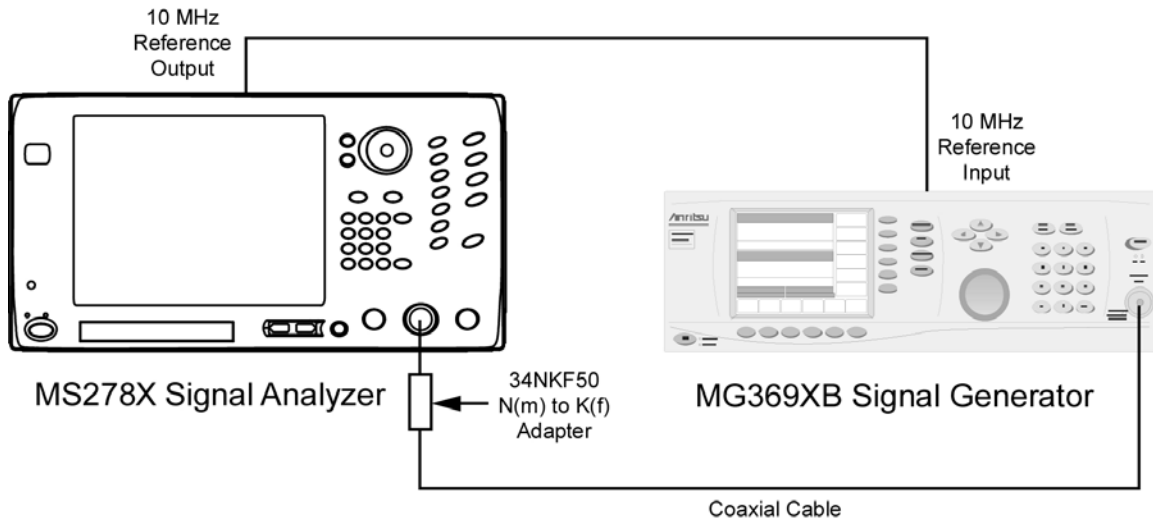

Figure 5-57. Equipment Setup for Resolution Bandwidth Switching Uncertainty Test
1. Set up the instruments as shown in Figure 5-57. Turn on both the MS2781B Signal Analyzer and the MG369XB Signal Generator and allow them to warm up for one hour.